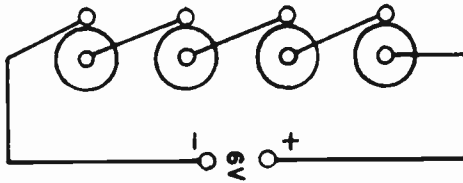

FIG. 1-9A. CELLS IN SERIES.
**CELLS IN SERIES AND PARALLEL.** In order to get the highest voltage from a group of cells, we hook them up in series, as shown in Fig. 1-9A. The total voltage available is simply the sum of the individual cells. We are all familiar with the 12.6 volt storage battery that is used in autos. It consists of six lead-acid storage cells hooked up in series. ( $6 \times 2.1 = 12.6$ ).